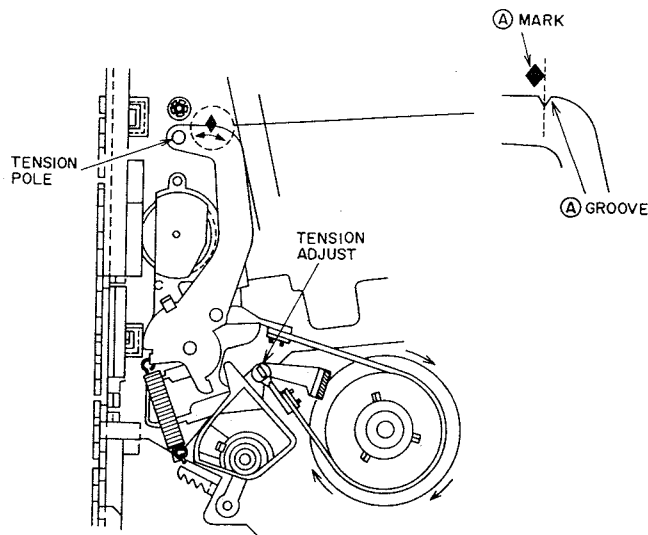

Fig. 4-1
- 2) Confirm that the (A) groove on the TENSION ARM aligns with right end of the (A) mark on the MECHA. CHASSIS as shown in Fig. 4-1.